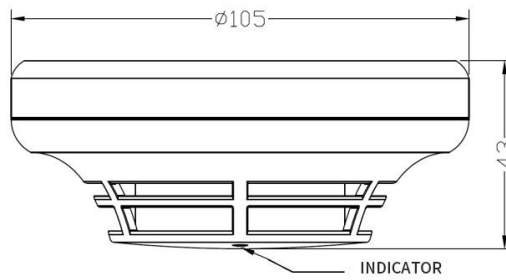
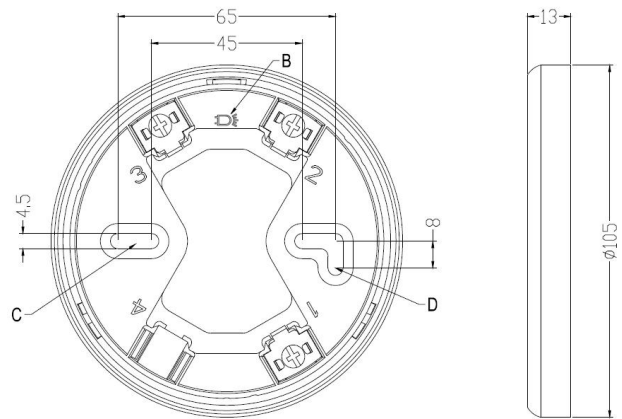

Fig.1 (Unit: mm)
Fig.5
4 Product appearance and size (see Fig.1)
The installation of the detector requires the use of a supporting base. The supporting base is shown in Fig.5. The external dimension is 105mm × 13mm(diameter × thickness), the fixed hole diameter is 4.5mm, and the spacing of fixed holes is 45mm ~ 65mm
- Secure the base to the specified position using two M4 screws through holes C and D shown in Fig.5 according to the construction drawings. Ensure that the base is securely installed;
- Align the indicator light at detector A (as shown in Fig.1) with the pattern at base B (as shown in Fig.5), insert the detector into the base, and turn the detector clockwise until it is locked in place;